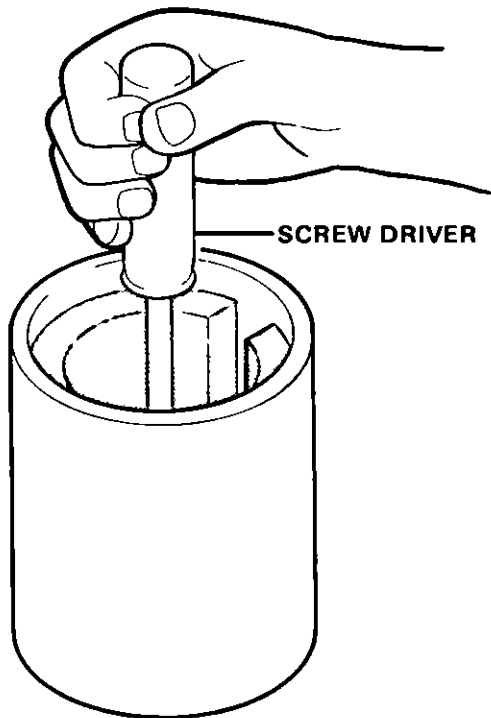

Figure 56 Testing Permanent Magnets in Starter Housing.
- 1 Hold screwdriver inside housing. Magnets should attract screwdriver strongly. Figure 56